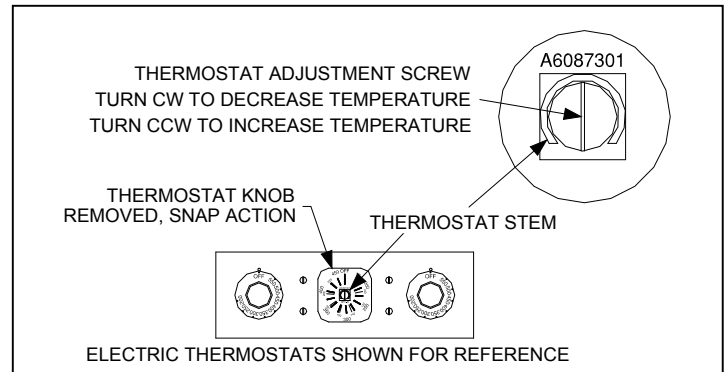

Figure 9
- 5 If the average temperature over any burner set is not within +/-15°F (8.3°C) of the knob setting, adjust the corresponding thermostat. This is done by removing the knob, holding the thermostat knob stem, see Figure 9, (**do not allow the stem to turn or the temperature setting will not be accurate**), then turn the adjustment screw located within the center of the stem in small increments. Turn this screw counter clockwise to increase the temperature, and clockwise to decrease the temperature.